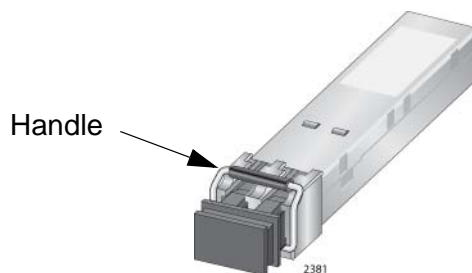

Figure 115. Handle on an SFP or SFP+ Transceiver
2. If you are installing the transceiver in slot 0 or 2, orient it with the handle on top, as shown in Figure 115 on page 178. To install it into slot 1 or 3, orient it with the handle on the bottom